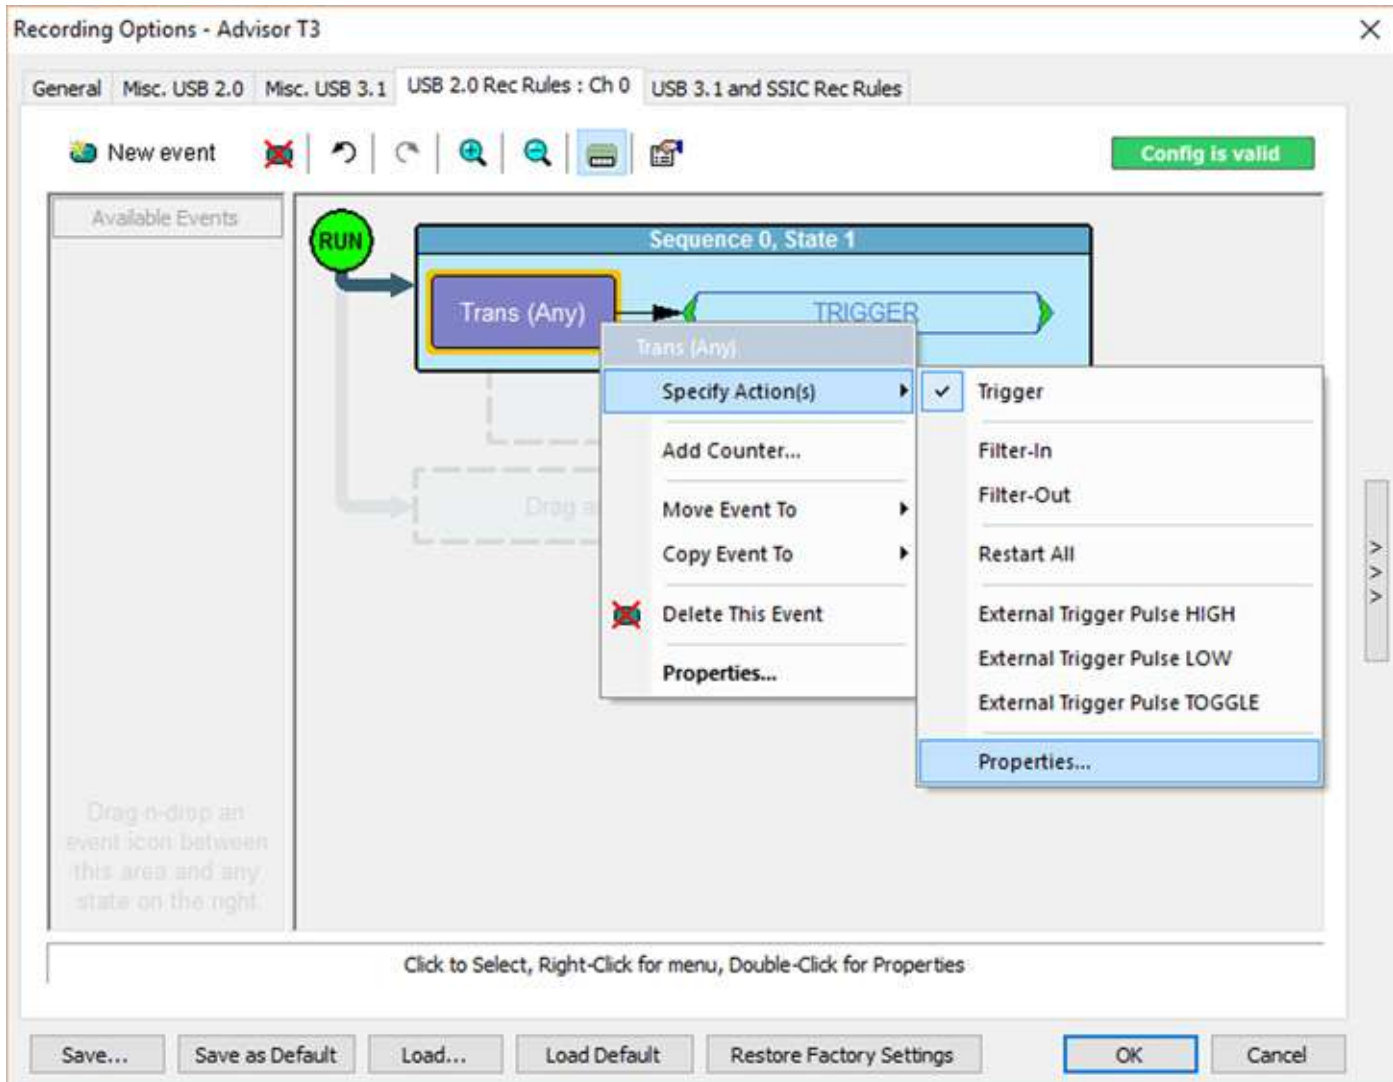

Figure 5.88: Assigning Action to Event Button.
1. Right-click the **Event** button to display a pop-up menu (see Figure 5.88 on page 342.)